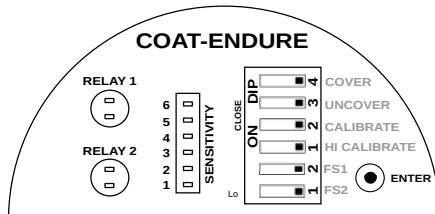

Figure 15: Saving Calibration
- Release the ENTER key and set the HI CALIBRATE switch back to OPEN position as shown in Figure 15.